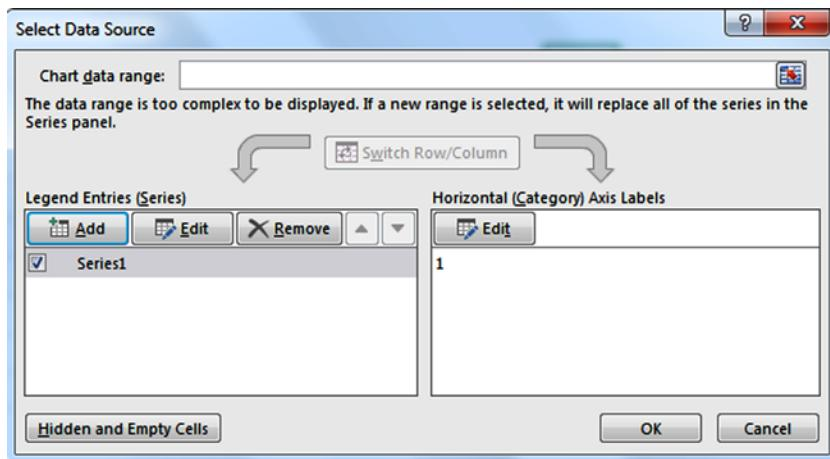

Figure 10-17. The Select Data Source dialog box
- Now, click the Add button and press OK for whatever default data is loaded. Series1 with a value of 1 should be the only series in the Select Data dialog, as shown in Figure 10-17.